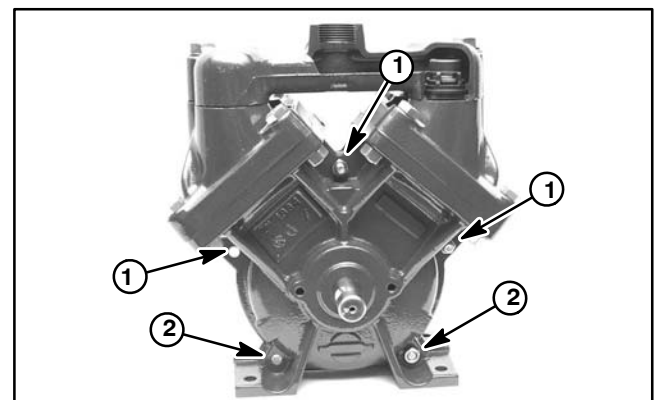

Figure 10
3. Install three (3) shorter (30 mm) bolts and two (2) longer (55 mm) bolts with washers into pump casing assembly (Fig. 10). Thread hex nuts onto bolts but do not fully tighten. Check that crankshaft turns freely.